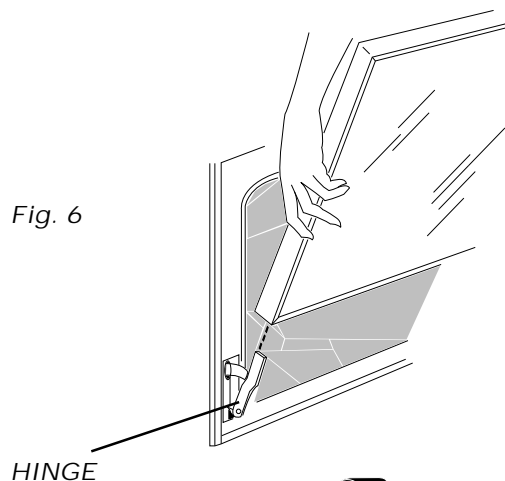

Fig. 6
- Slide the door down onto the hinges as far as it will go and close the door. (See Fig. 6).